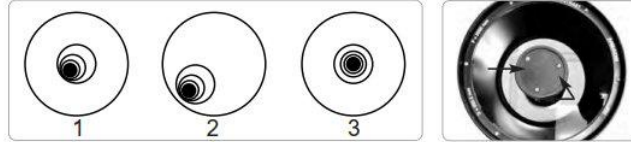

Fig. 33a: Defocused star images. Misaligned (1, 2), Aligned (3). Fig. 33b: Collimation screws.
- b. While looking at the defocused star image, notice which direction the darker shadow is offset in the ring of light or notice which part of the ring is the thinnest (**Fig. 33a, 1**). Place your index finger in front of the telescope so that it touches one of the collimation set screws. You will see the shadow of your finger in the ring of light. Move your finger around the edge of the black plastic secondary mirror support until you see the shadow of the finger crossing the thinnest part of the ring of light. At this point, look at the front of the telescope where your finger is aiming. It will either be pointing directly at a set screw, or it will be between two set screws aiming at the set screw on the far side of the black plastic secondary mirror support. This is the set screw that you will adjust.
- c. Using the AutoStar II's Arrow keys at the slowest slew speed, move the defocused image to the edge of the eyepiece field of view (**Fig. 33a, 2**), in the same direction as the darker shadow is offset in the ring of light.
- f. When you bring the image to center (**Fig. 33a, 3**), carefully examine the evenness of the ring of light (concentricity). If you find that the dark center is still off in the same direction, continue to make the adjustment in the original turning direction. If it is now off in the opposite direction, you have turned too far and you need to turn in the opposite direction. Always double check the image in the center of the field of the eyepiece.